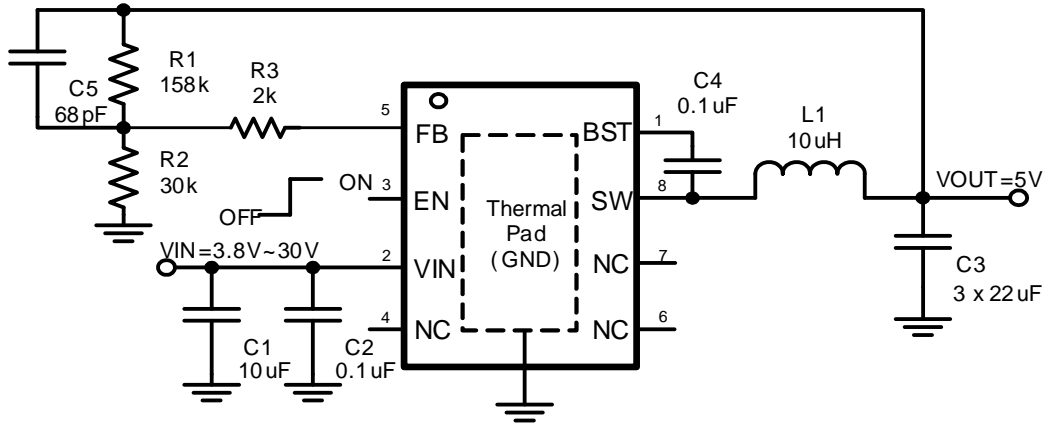

Figure 10. 24V Input, 5V/3A Output
The SCT9339 features external programmable output voltage by using a resistor divider network R1 and R2 as shown in the typical application circuit Figure 10. Use equation (11) to calculate the resistor divider values.